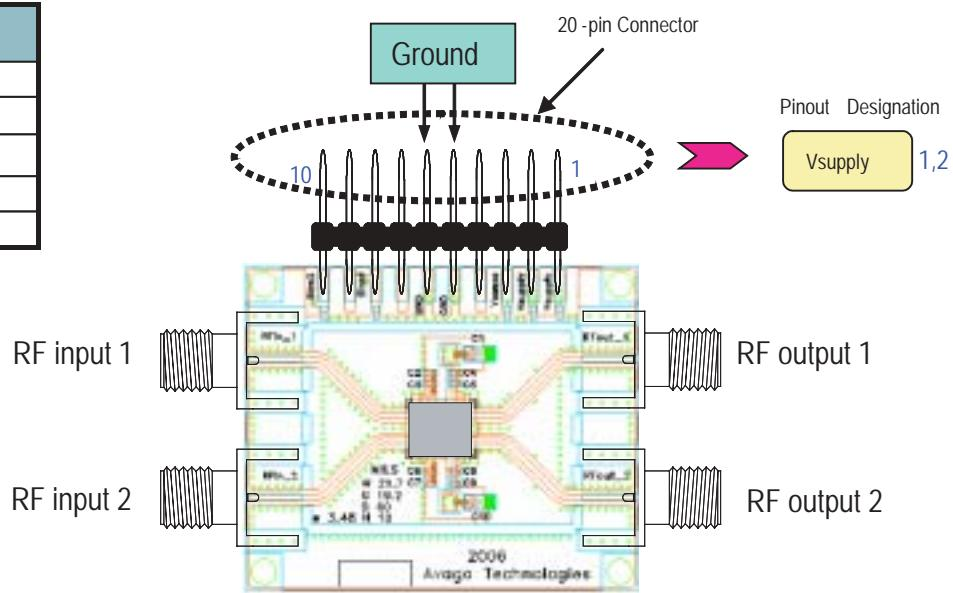

Figure 5. Demo Board Layout Diagram
$T_A = 25^\circ C$, $V_{dd} = 5V$ @ $V_{ctrl}=2.2V$, RF performance at 2.0 GHz, given for each of the 2 RF paths, measured on demo board (see Fig. 5) unless otherwise specified.
7. Measurements at 2GHz obtained using demo board described in Fig 5.